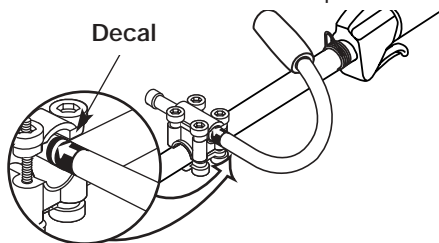

Figure 2
2. While holding the three pieces together, install the four (4) screws through the top clamp and into middle clamp.
5. Slide the J-handle in or out until the arrow/white line on the decal touches the clamp assembly. You must first loosen the screws if the handle is pre-installed. See Figure 2.